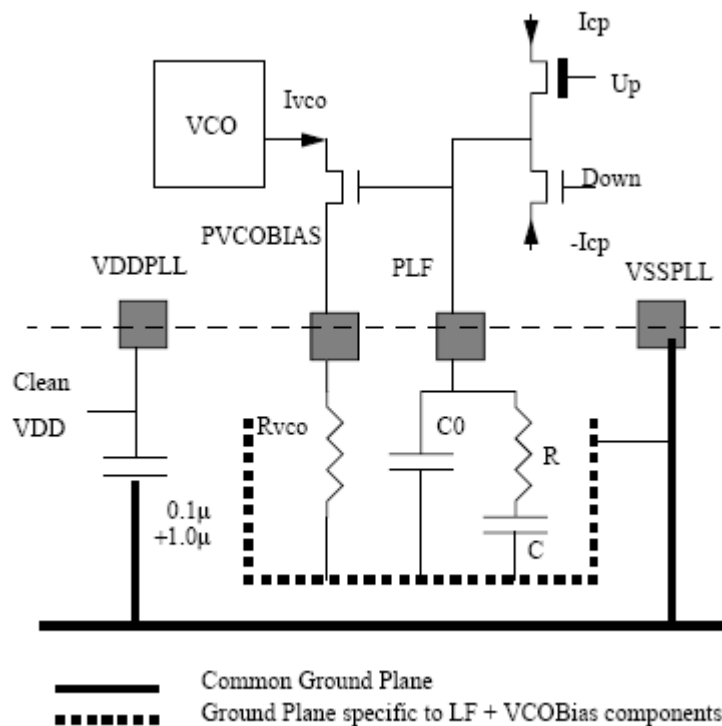

Figure 12-1 PLL Layout Recommendations
See Figure 12-1 the internal wiring of PLL block to better understand the external board recommended layout. The Voltage drop between PLL loop filter (LF) and the PVCOBIAIS pads will be converted into a current (I_{vco}) which will determine the VCO frequency. It is critical to avoid any disturbance of that voltage drop at this will translate directly to jitter in the VCO frequency.